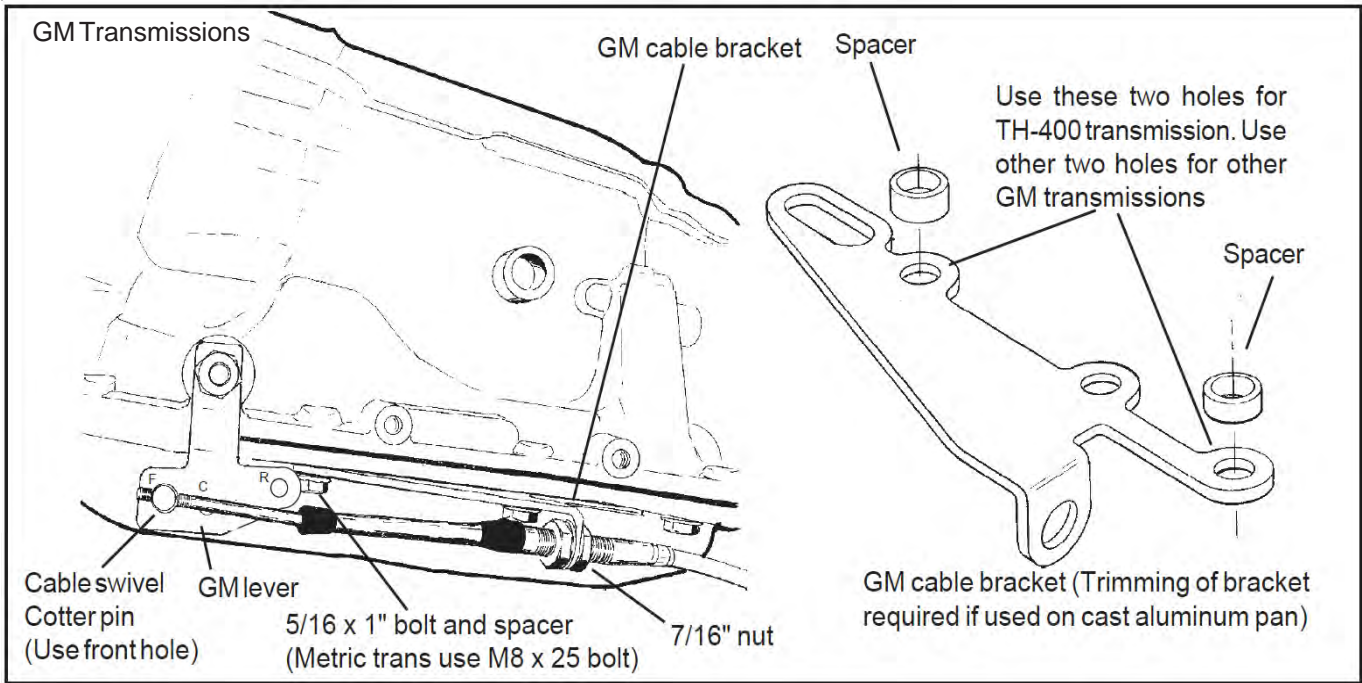

Figure 5
STEP 10. If you have not already done so, remove the stock selector lever nut and the selector lever from the transmission. Discard the stock lever and the stock shifter linkage. Install the **B&M** selector lever in position using the stock selector lever nut (**See Figure 5**). Torque the nut to 23 lb. ft. The lever should move smoothly from front to rear with a positive click in each gear position.
STEP 11. Remove two transmission oil pan bolts from the middle of the left side of the oil pan. Install the cable bracket in position (**See Figure 5**). The bracket must be installed with two spacers between the pan and the bracket. (If your transmission is equipped with a cast aluminum oil pan, these spacers should be omitted. With a TH-400 with a cast aluminum oil pan, the cable bracket may have to be modified.) Install the two 5/16-18 x 1.00" bolts (Metric transmissions use the two 8mm x 25mm bolts) supplied and tighten 12-13 lb.ft. Do not over-tighten as this can damage the pan gasket.